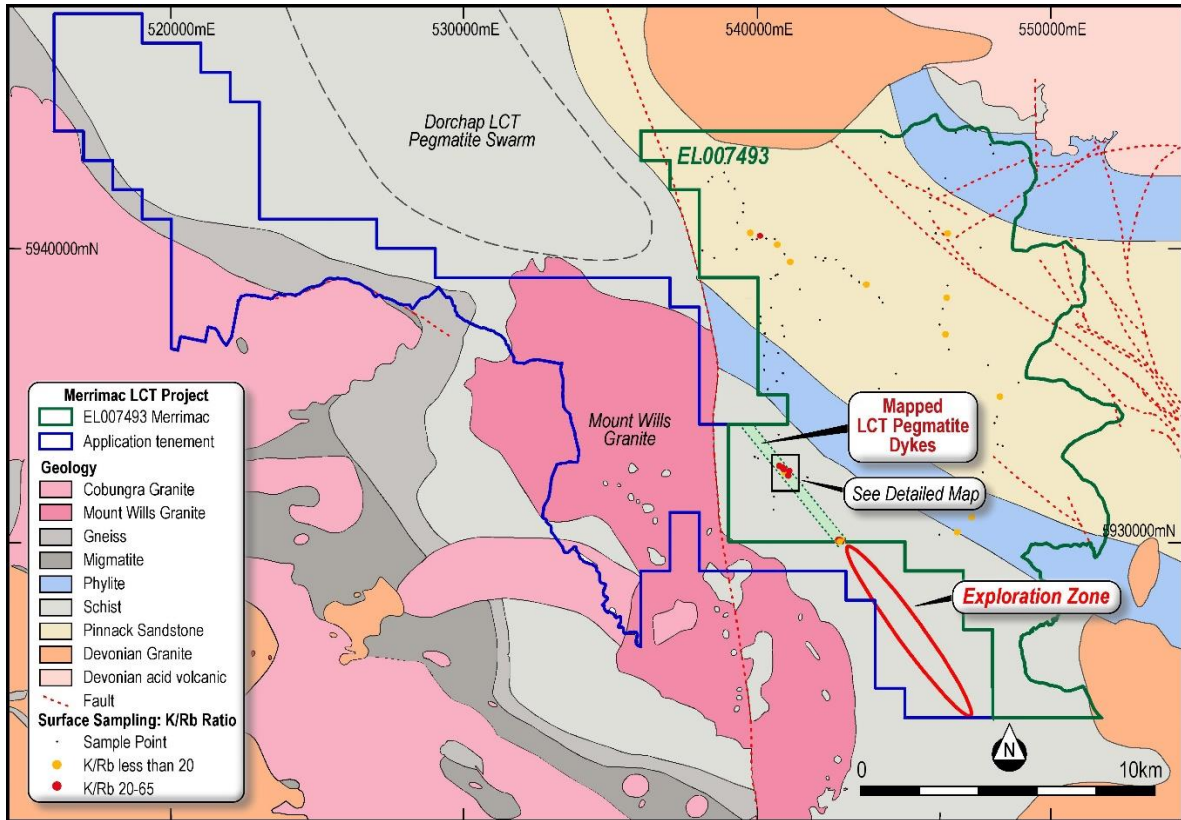
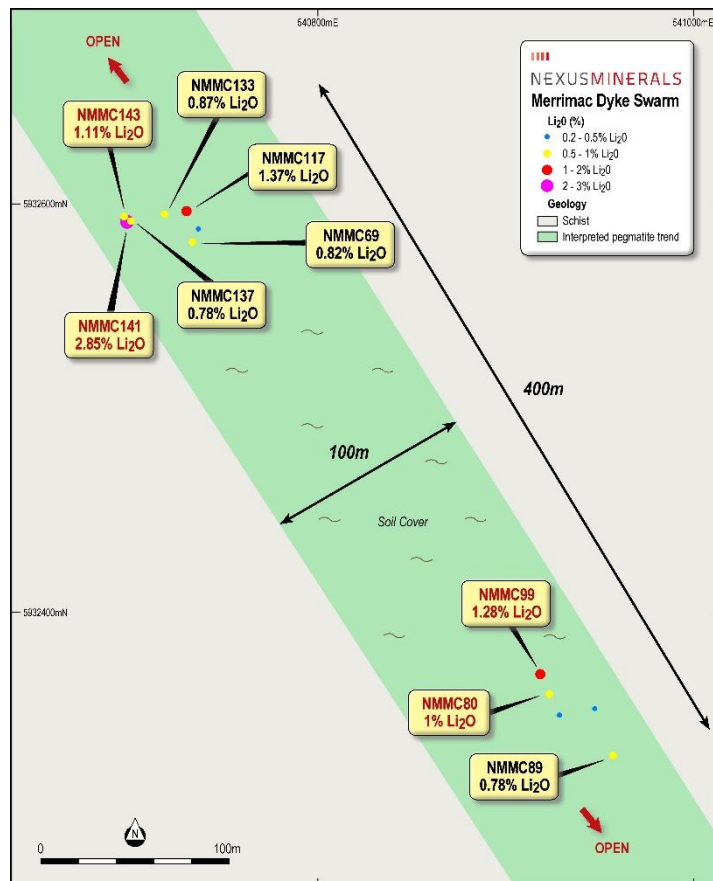

Figure 2: Merrimac LCT Project map
Figure 3: Merrimac LCT dykes rock chip assays – XRD samples in red text (detailed map from Figure 2)
- ✓ Mapped spodumene bearing pegmatite dykes extend onto Nexus application tenement (see Exploration Zone highlighted in figure 2)
Four of the high-grade lithium samples collected during the initial mapping campaign and returning Li₂O grades of 2.85%, 1.28%, 1.11% and 1.00% were submitted to the laboratory for XRD analysis. Samples were submitted from two areas of outcropping pegmatites up to 400 metres apart on the same strike trend (Figure 2 and Figure 3).